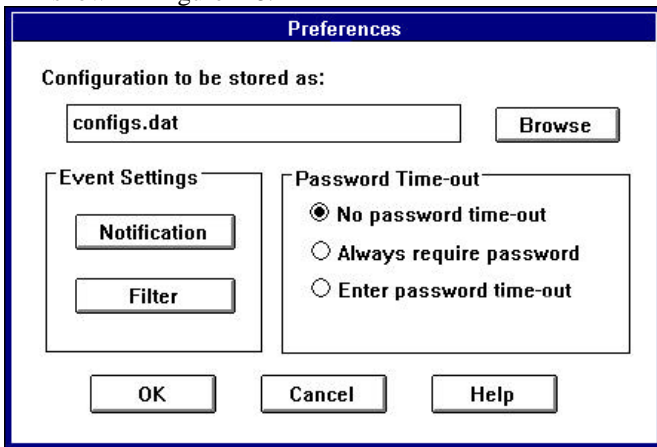

Figure 2-8: Preferences Dialog Box
1. Click the  button. The Preferences dialog box appears, as shown in Figure 2-8.